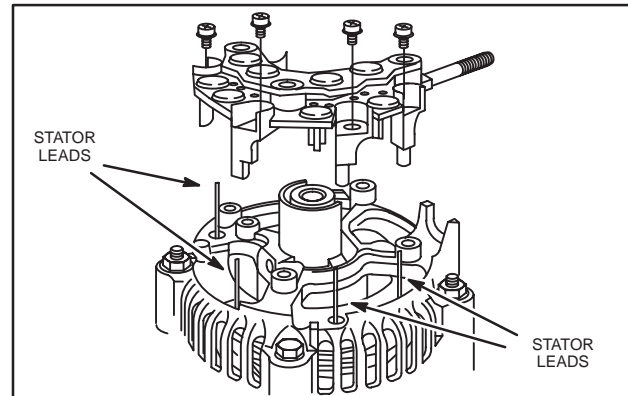

Fig. 25 – Remove Rectifier
6. Remove four stator lead screws from rectifier, Fig. 25.